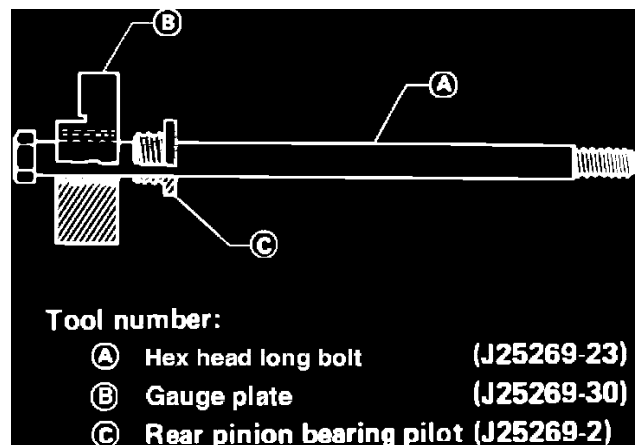

Fig. 33 Assembling front bearing pilot support assembly
3. Stand front bearing pilot support on workbench with appropriate side up and assemble front pinion bearing pilot and front bearing in inner race, ensuring that all parts are seated, **Fig. 33**.